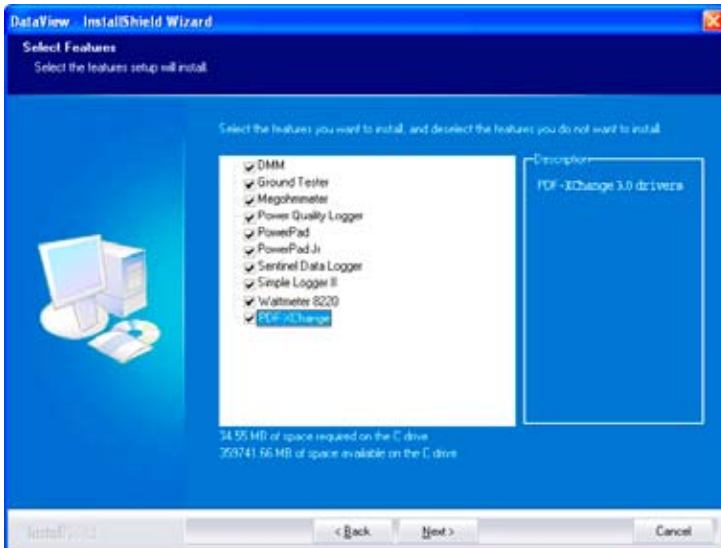
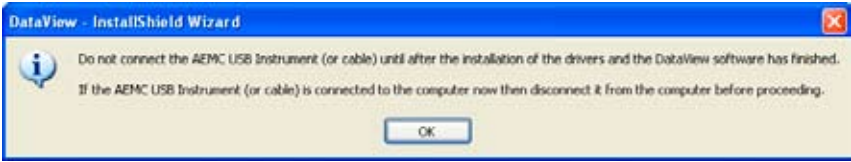

Figure 1-2
Figure 1-3
9. If the instrument selected for installation (see Figure 1-2) requires the use of a USB port, a warning box will appear, similar to Figure 1-3. Click **OK**.